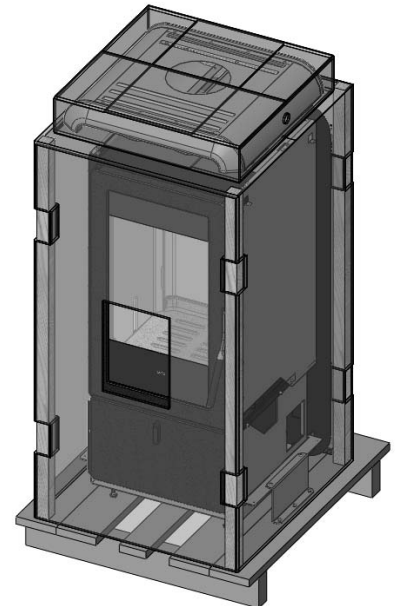

Figure 2 - Kasai stove packaging
- one contains the stove (fig.2)